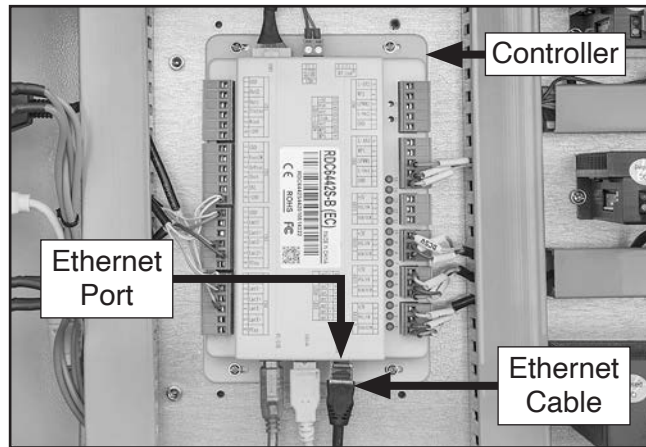

Figure 38. Example of controller ethernet port location.
1. Connect ethernet cable to controller ethernet port (see **Figure 38**), then connect opposite end of cable to a personal computer running RDWorks.